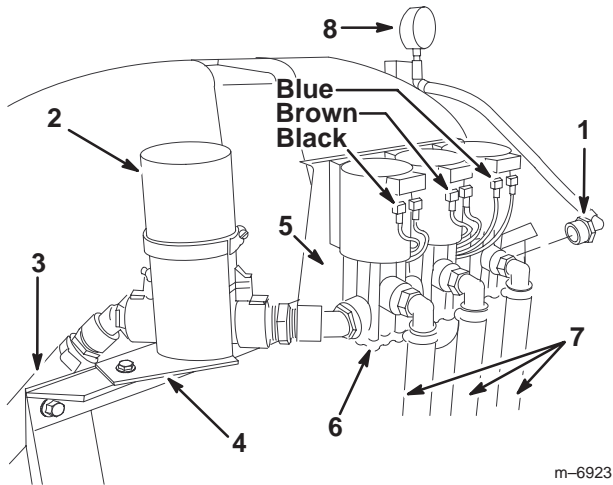
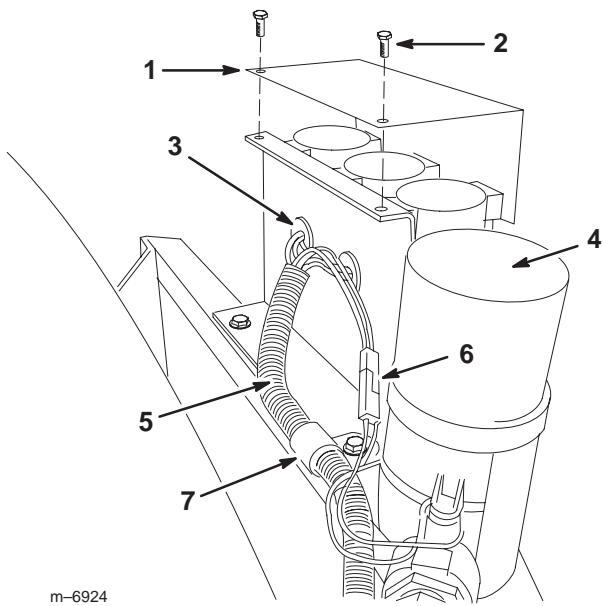

Figure 2
Figure 4
1. Install the 90° barb into new solenoid assembly (Fig. 2).
2. Connect the new solenoid assembly to the control valve using the 45° elbow (Fig. 2).
4. Install the barbed 90° elbow previously removed into the end of the solenoid assembly (Fig. 2).
5. Install 2 grommets into the two large holes in the solenoid mounting bracket (Fig. 4).
8. Install the control valve and bracket assembly to the cross support (Fig. 2) using the fasteners removed previously. Repeat for the solenoid and mounting bracket assembly (Fig. 4).
10. Route the flow control cable across the cross support angle to make electrical connections to the control valve and solenoid valves (Fig. 4).
- 11.** Connect the control valve to the respective electrical connector from the flow control cable (Fig. 4).
- 12.** Feed the remaining control cable wires through the two grommets in the solenoid mounting brackets. The wires are distributed as follows: the black wire to the left solenoid, the brown wire to the middle solenoid, and the blue wire to the right solenoid. A white jumper (3) is connected to all three solenoids (Fig. 2 & 4).
- 13.** Secure the flow control cable to the boom frame with the R-clamp (Fig. 4).
- 14.** Install the solenoid valve shield to the top of the solenoid mounting bracket and secure with (2) flange screws (1/4 x 3/8 inch).